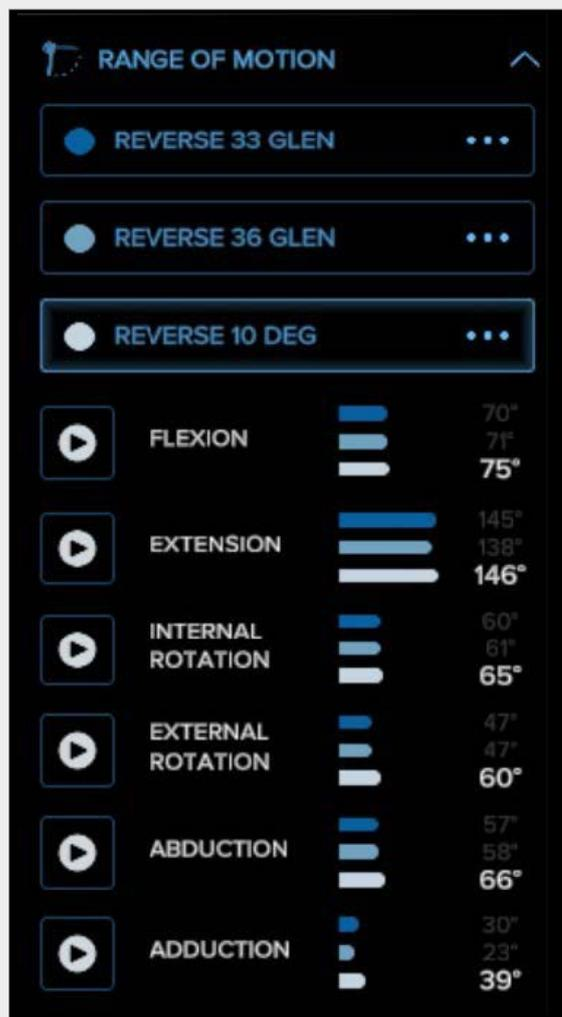

Figure 69. Range of motion chart
- The ranges of motion for each plan are displayed as shown in Figure 69.
- The active plan is highlighted by a blue outline as shown in Figures 69 and 70 and the number values for the ranges of motion for the selected plan are displayed in white text while the non-active plan number values are dimmed.